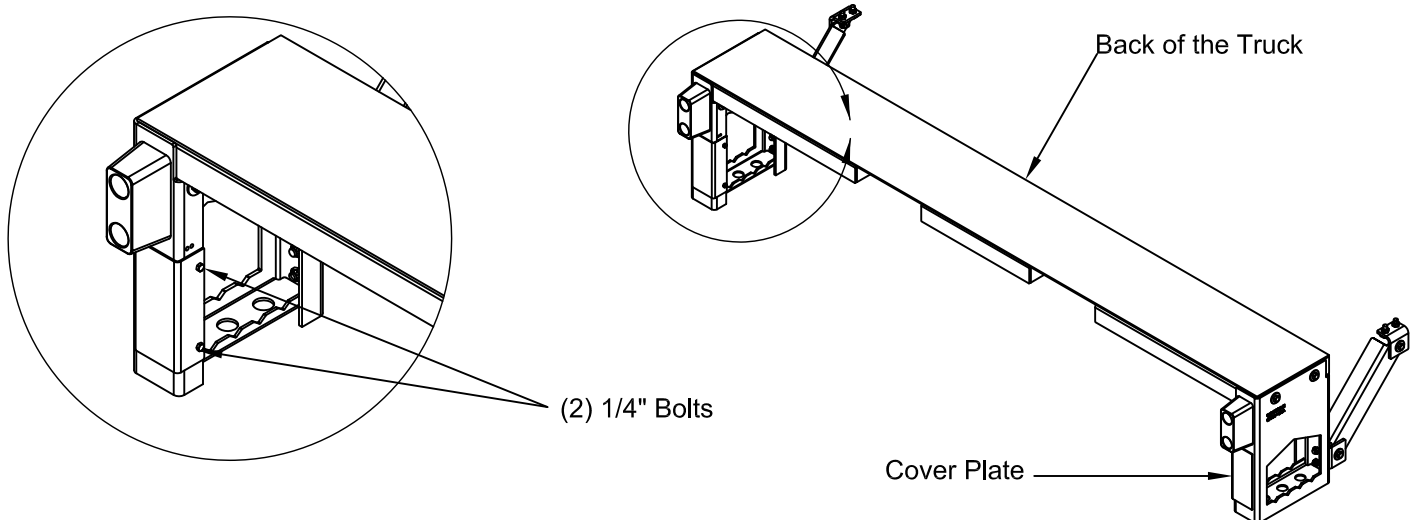

Figure 3: Bed Extension Cover Plate (Liftgate not shown)
3. Remove the cover plate by taking out the two (2) 1/4" hex head bolts on each side with a 3/8" wrench or socket (Figure 3).